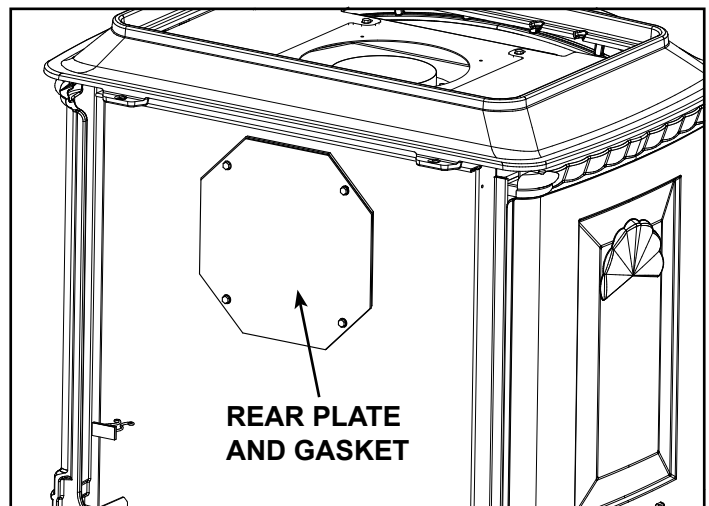
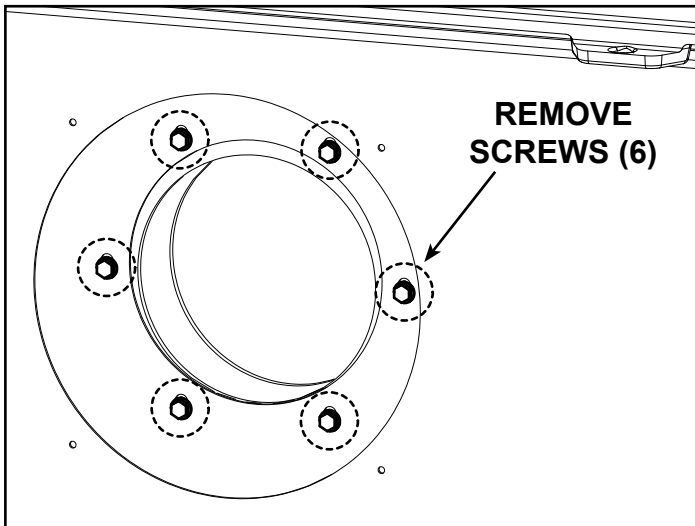
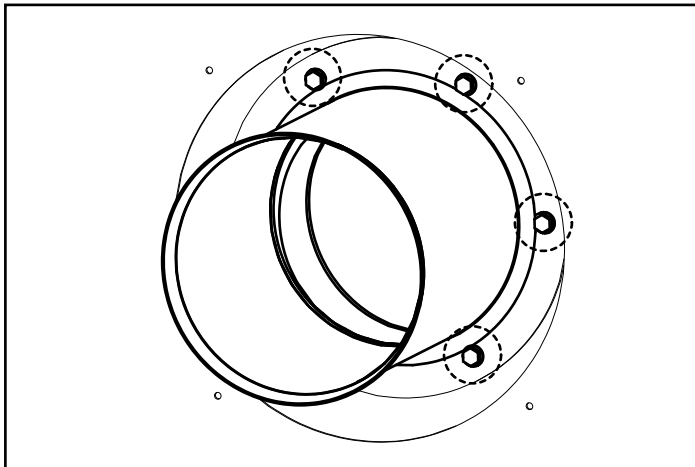

Figure 6.5
Figure 6.7. Remove Screws Under Rear Access Plate
Figure 6.8. Attach inner collar adapter to rear flue vent.
2. Remove vent pipe adapter and gasket by removing 4 screws. Save the screws. (If gasket breaks, apply high-temp sealant to bottom of adapter before installing as shown in Figure 6.8.)
- Remove rear access plate and gasket by removing four screws. Save the screws. See Figure 6.5.
- Remove six screws under the rear access plate removed in Figure 6.5. See Figure 6.7. Install inner pipe adapter and new gasket (included with kit) using six screws. See Figure 6.8.
- Install starting collar with gasket or high-temp sealant to rear vent opening. Attach with screws removed in Figure 6.5. Place grille gently into the opening on top of appliance. The grille does not have a hole and is included with the kit.